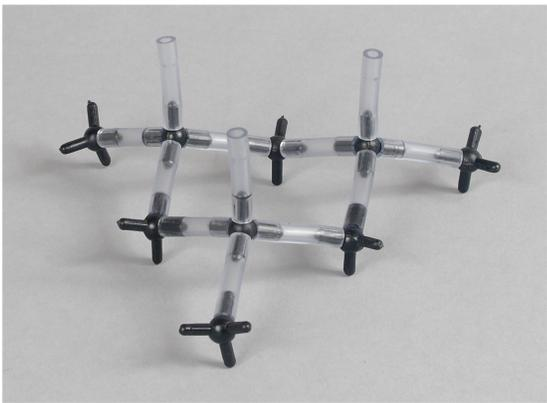

Fig. 8 Layer C with three vertical bonds.
- You should now have four layers. Attach three bonds to the three "up" carbons of layer C as you can see in Fig. 8.